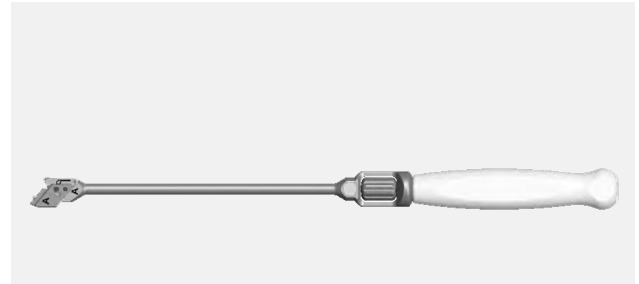

Figure 4
- Both anterolateral and straight inserters are available to aid with insertion for specific approaches (Figure 4). Each inserter type has their specific inner shaft and external housing.